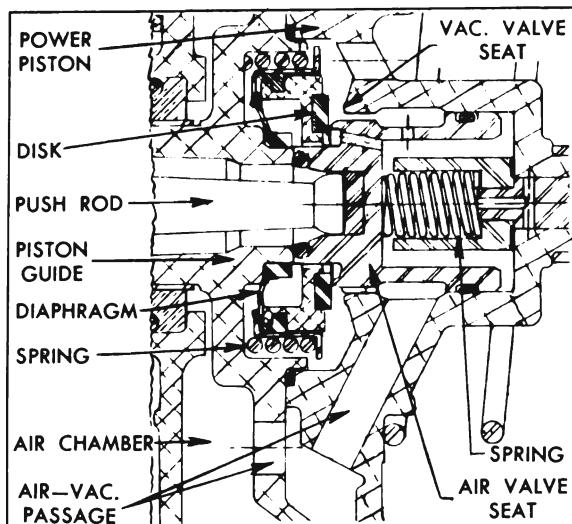

Figure 8-2—Control Valve Parts
(1) *Unapplied Stage*. See figures 8-2 and 8-3. The pedal return spring holds the push rod clear of the air valve seat. The reaction rod spring presses air valve seat forward against the hub of piston guide and against the floating control valve disk, thereby closing the air passages leading to the *air* chamber.